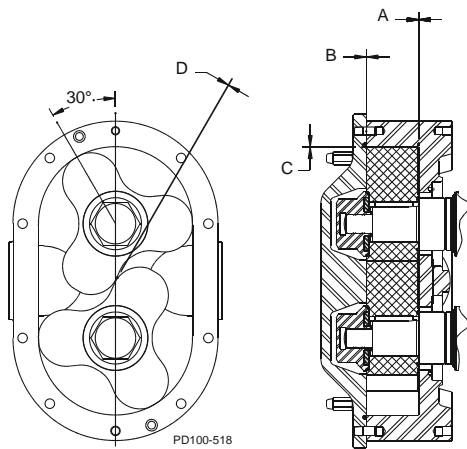

Figure 74 - Clearance Measurements
1. Measure the rotor backface clearance (Figure 74, item A) through the port or from the front. For optimum pump operation, the backface clearance for both rotors must be the same and must be $\pm .0005$ " of the value found in Table 7, below.
2. Measure the rotor front face clearance (Figure 74, item B).